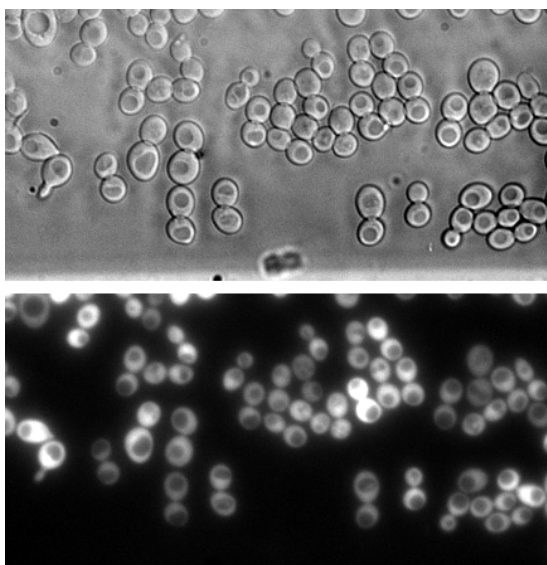
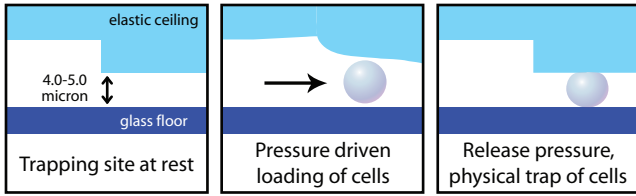

Figure 5 Cell Microscopy
Figure 6 Cell Trap Schematic
7. Activate cell loading (via ONIX FG software) to transport cells into the trapping region. The suggested loading protocol is at 6-8 PSI for 10 seconds. The loading profile will depend on cell density, cell size, and desired trapping density. When loaded, the trapping region will look similar to Figure 5. Repeated pulsing of the cell load button will push more cells into the trapping chamber. The cell trapping mechanism is depicted in Figure 6.